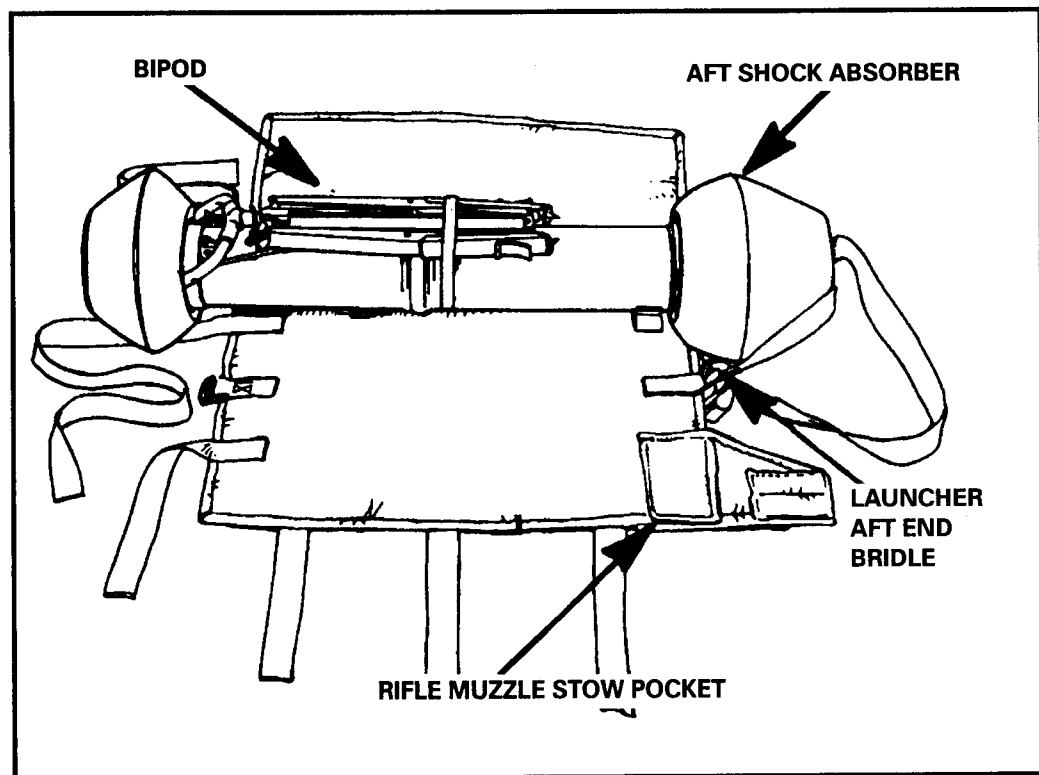

Figure 12-31. Missile being positioned.
- (1) Place the pack with the felt side of the pack body facing up and extend all straps.
- (2) Position the missile in the pack with the biped facing up (Figure 12-31, page 12-38).
- (3) Fit the aft shock absorber (large end) into the launcher aft end bridle of the jump pack.